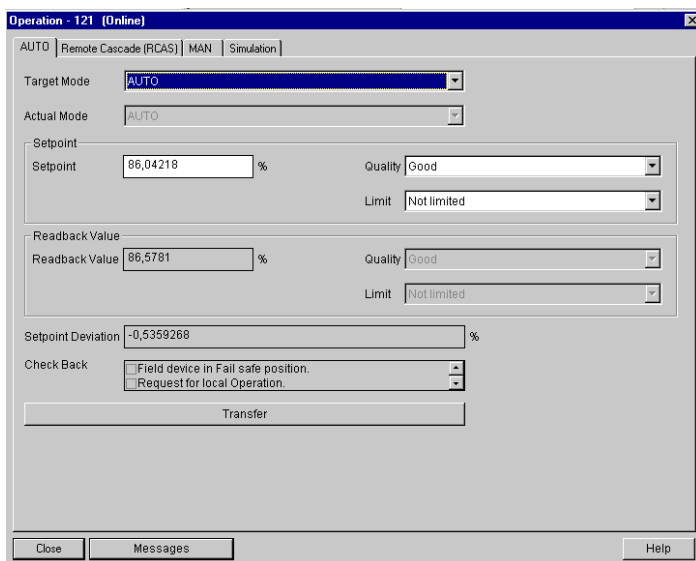

Figure 7. Operation / Auto.
The page AUTO in the operation window is presented in figure 7. From this window it is possible to change the operating mode of the device and change the value of the auto-mode valve position setpoint (SP).